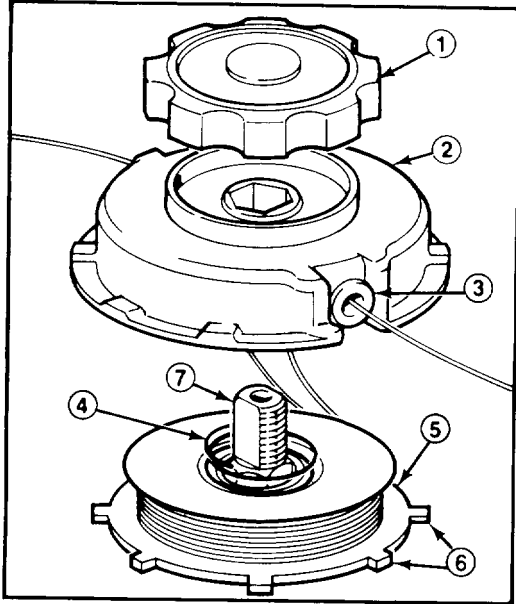

Figure 11
2. Loosen spool knob until it can be removed (Fig. 11).